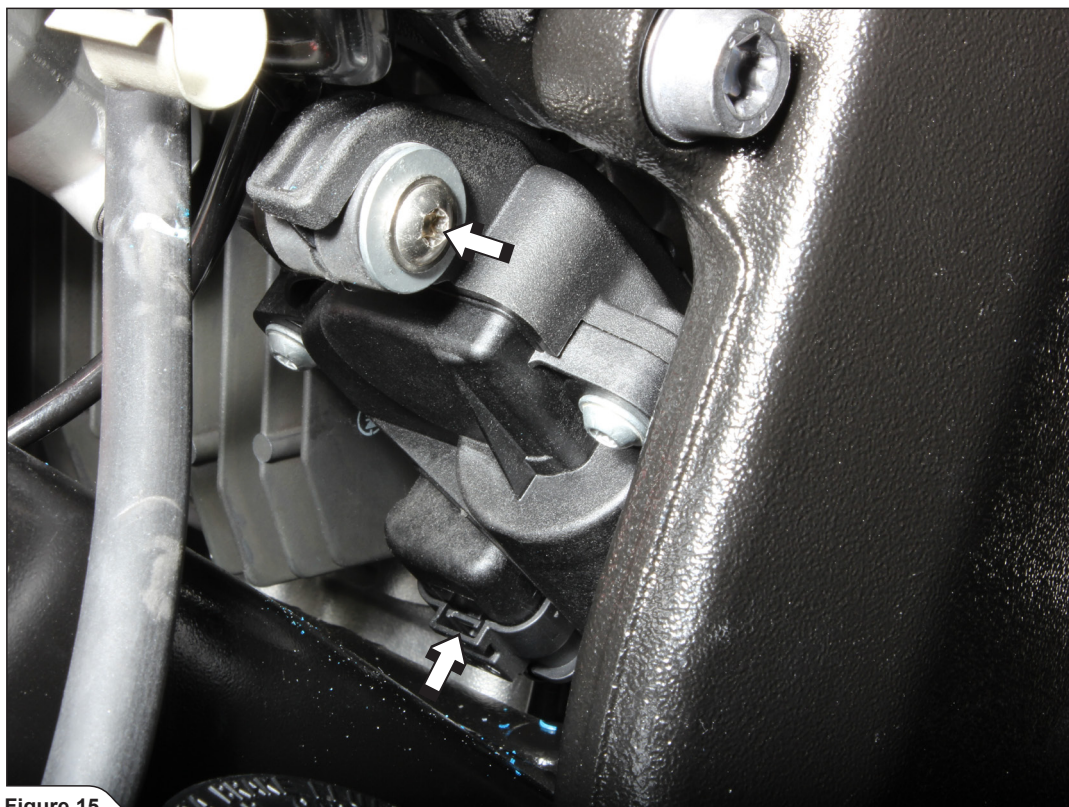

Figure 15
13. Unscrew the exhaust valve's servo motor, undo the electrical connector and carefully remove the servo motor with cables off the motorcycle (Figure 15, 16).